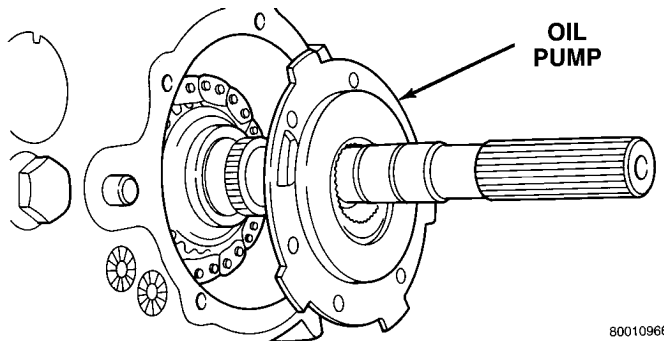

Fig. 15 Oil Pump Removal
- (9) Remove rear bearing O.D. retaining ring with snap ring pliers. Then tilt pump and slide it off output shaft (Fig. 15)